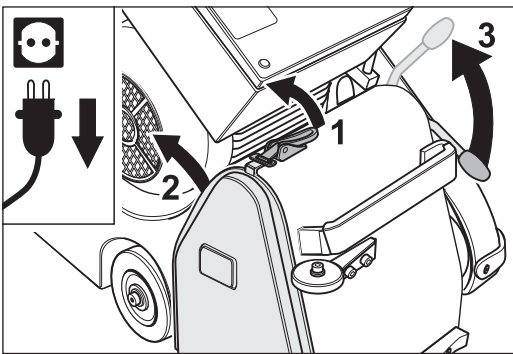

Fig. 65 Release the cover lock (1), remove the side cover (2) and lower the tensioning roller by pulling up the operating lever (3).
- 3 Release the cover lock (Fig. 65, 1) and remove the side cover on the right of the machine housing (Fig. 65, 2).
- 4 Pull the operating lever of the drive unit upwards (Fig. 65, 3). This will lower the tensioning roller.